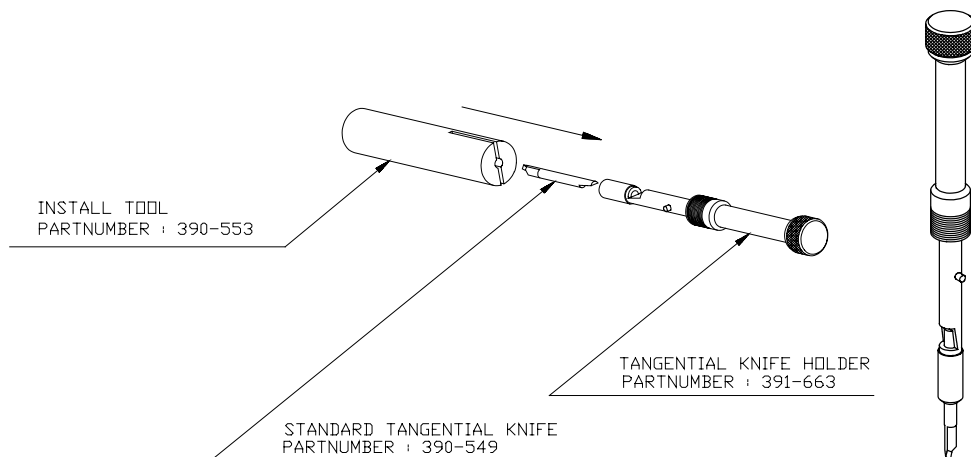

FIGURE 1-4:
1. As shown in Figure 1-4, insert the standard knife blade (p/n 390-549) into the knife holder. Make sure the knife blade is firmly fixed in the holder. The knife is inserted correctly if it cannot be removed manually from the knife holder.